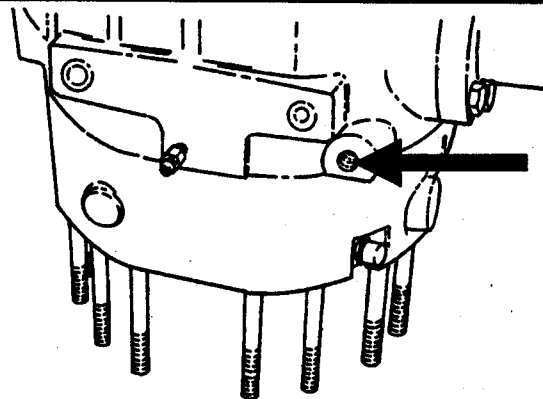

Figure 8.
12. Stand center assembly (Figure 8) on end, and apply 40-70 psi (270 - 483 kPa) to the brake line part to release brake pistons (16, Figure 4). Remove brake pistons (16). Note o-ring (17) and back-up ring (18).
WARNING: Perform this operation only with assembly in position shown in Figure 8. Treat compressed air with caution.